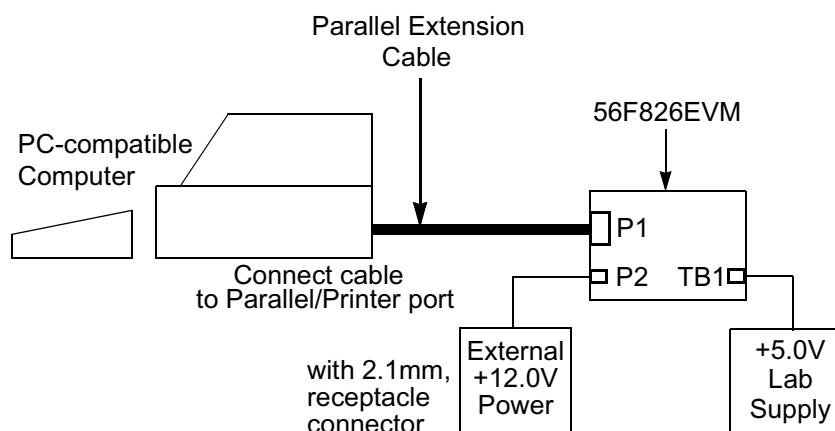

Figure 1-3. Connecting the 56F826EVM Cables
An interconnection diagram is shown in **Figure 1-3** for connecting the PC and the external +12.0V DC power supply or external +5.0V DC lab power supply to the 56F826EVM board.
2. Connect the other end of the parallel extension cable to P1 on the 56F826EVM board as shown in **Figure 1-3**. This provides the connection which allows the host computer to control the board.
4. Connect the 2.1mm output power plug from the external switching power supply into P2 on the 56F826EVM board, as shown in **Figure 1-3**. Optionally, attach an external +5.0V DC lab power supply via the 2-pin terminal block, TB1.